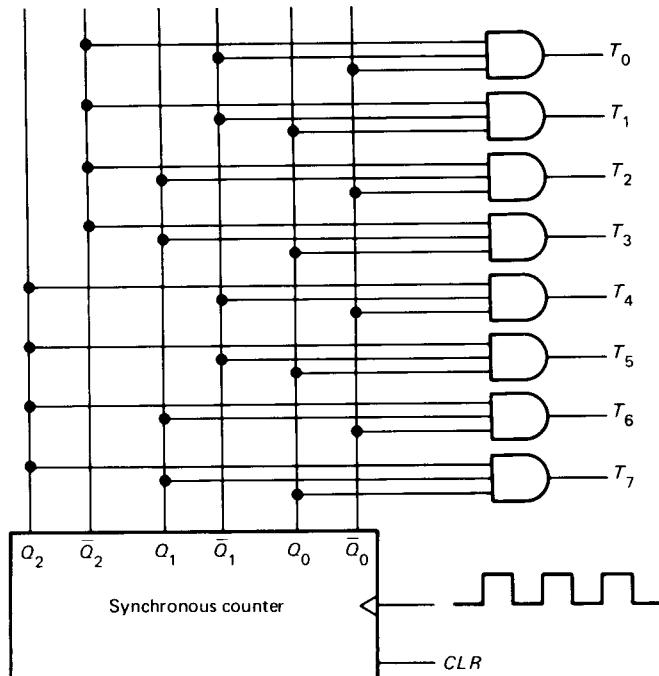

Fig. 8-32
- 8-13. If the clock frequency is 5 MHz in Fig. 8-32, how long does it take to produce all the ring words? How long is each timing bit high?
- 8-12. Figure 8-32 shows another way to produce ring words. After the circuit is cleared,